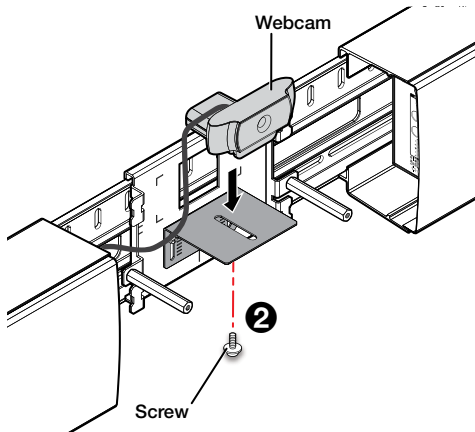

Figure 17. Securing the Webcam to Shelf
2. A screw is inserted in the bottom slot of the shelf (see figure 17, ②) to secure the webcam.